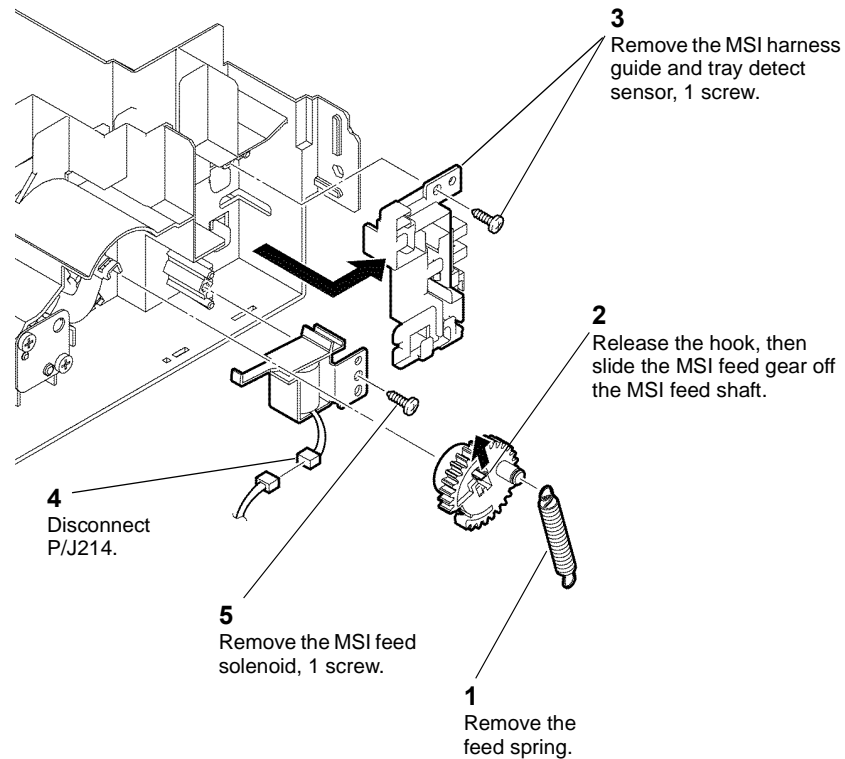

Figure 1 MSI feed gear and feed solenoid
2. Remove the MSI feed solenoid assembly, Figure 1.